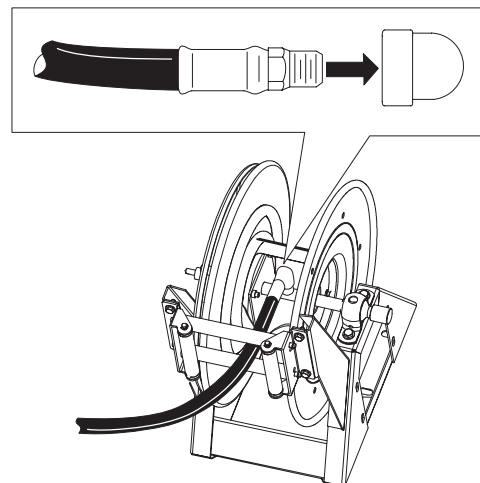

Figure 13
1. Wrap Teflon tape around the threads of the hose fitting on the long hose and install the fitting into the connecting tube on the reel (Fig. 13).